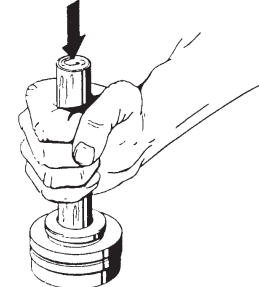

Figure 4-2
8. If the seal seat (#12.5) must be reused, use a wooden dowel sized to fit through the hole in the seal cup to tap it out. (refer to figure 4-2) Ceramic seal seats are particularly easy to damage. Normally, always replace the seats when servicing the pump.